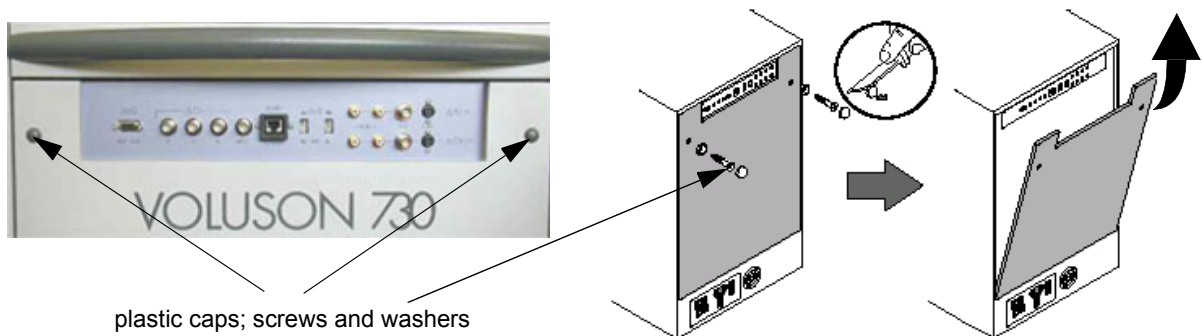

Figure 3-6 Remove rear cover plate
- 1.) Remove rear cover plate; see Figure 3-6.